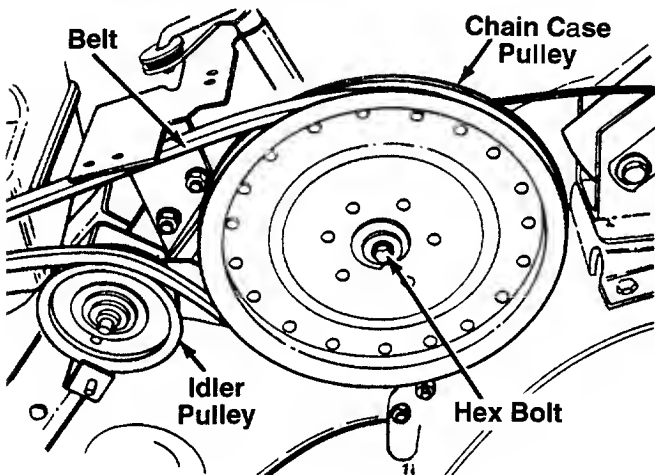

FIGURE 7.
18. Remove the center bolt (and washers) from the chain case pulley (large pulley at the rear of the tiller). Remove the pulley from the splined shaft. See figure 7.
22. Slide the chain case pulley back onto the splined shaft. Secure with hardware removed in step 18. Place belt around the chain case pulley. Route the belt over top of the idler pulley. Refer to figure 7.